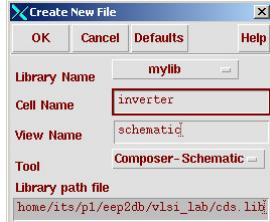

Figure 9. Create New File Window
1. In the **Library Manager**, click once on **mylib**. Then click **File**, **New**, then **Cell view**. The **Create New File** window should appear as shown in Figure 9.